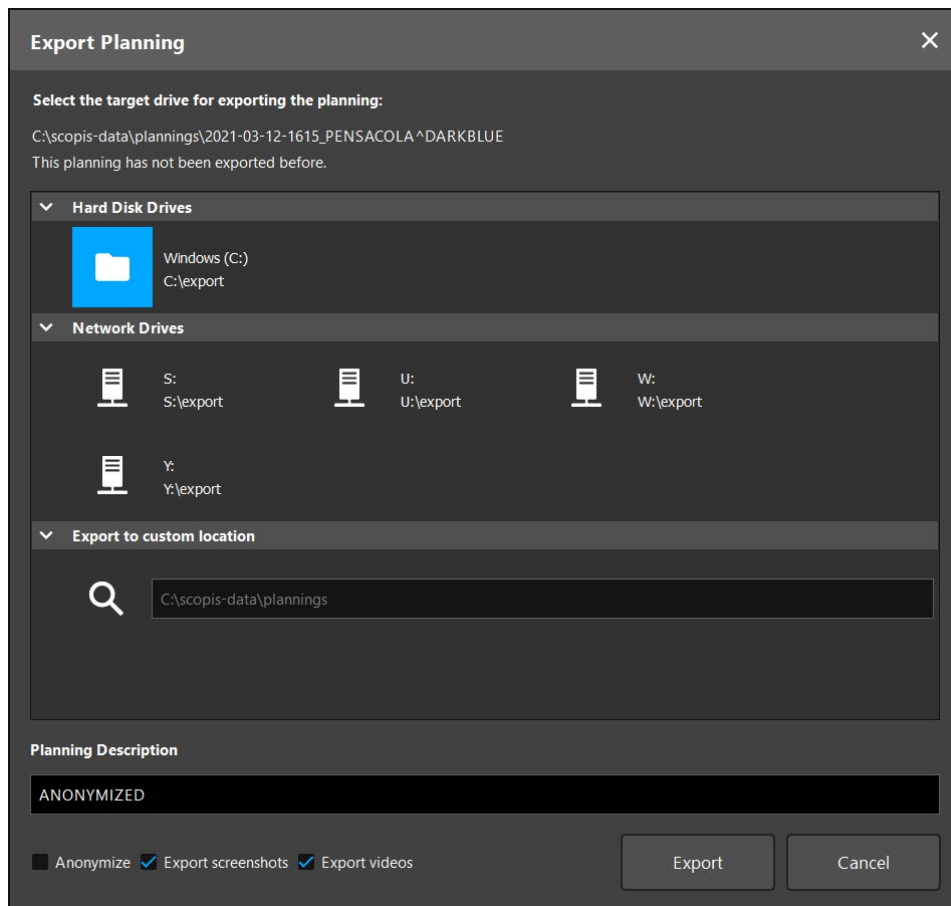

Figure 95 *Export Planning* dialog
2. In the *Export Planning* dialog, choose the target drive desired for exporting (Figure 95).